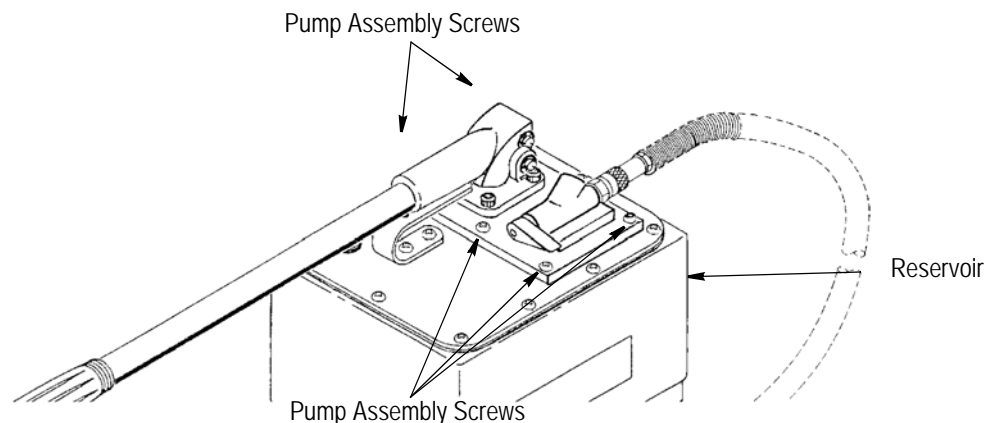

Figure 11
- 1) Refer to Figure 11. Remove six pump assembly screws, holding reservoir cover to reservoir, and carefully lift pump assembly from reservoir.
2. Refer to Figure 11. Remove the six pump assembly screws, holding the reservoir cover to the reservoir, and carefully lift the pump assembly from the reservoir.